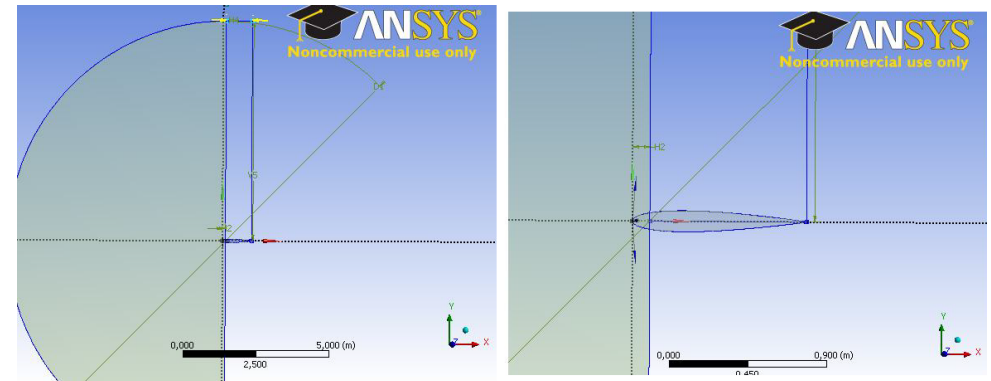

Figure 2: **Fig. 2** Rectangular placed next to half of the cylinder
6. Add new **Sketch** in the XY-Plane. Go to the Sketching mode. Make a rectangular 0,9 x 7,5m. The end points of the bottom side of rectangular are : (0,1 0), (1 0). Use **Coincident** in order to attach some lines with the other. Fig. 2 shows the rectangular in the sketching mode.